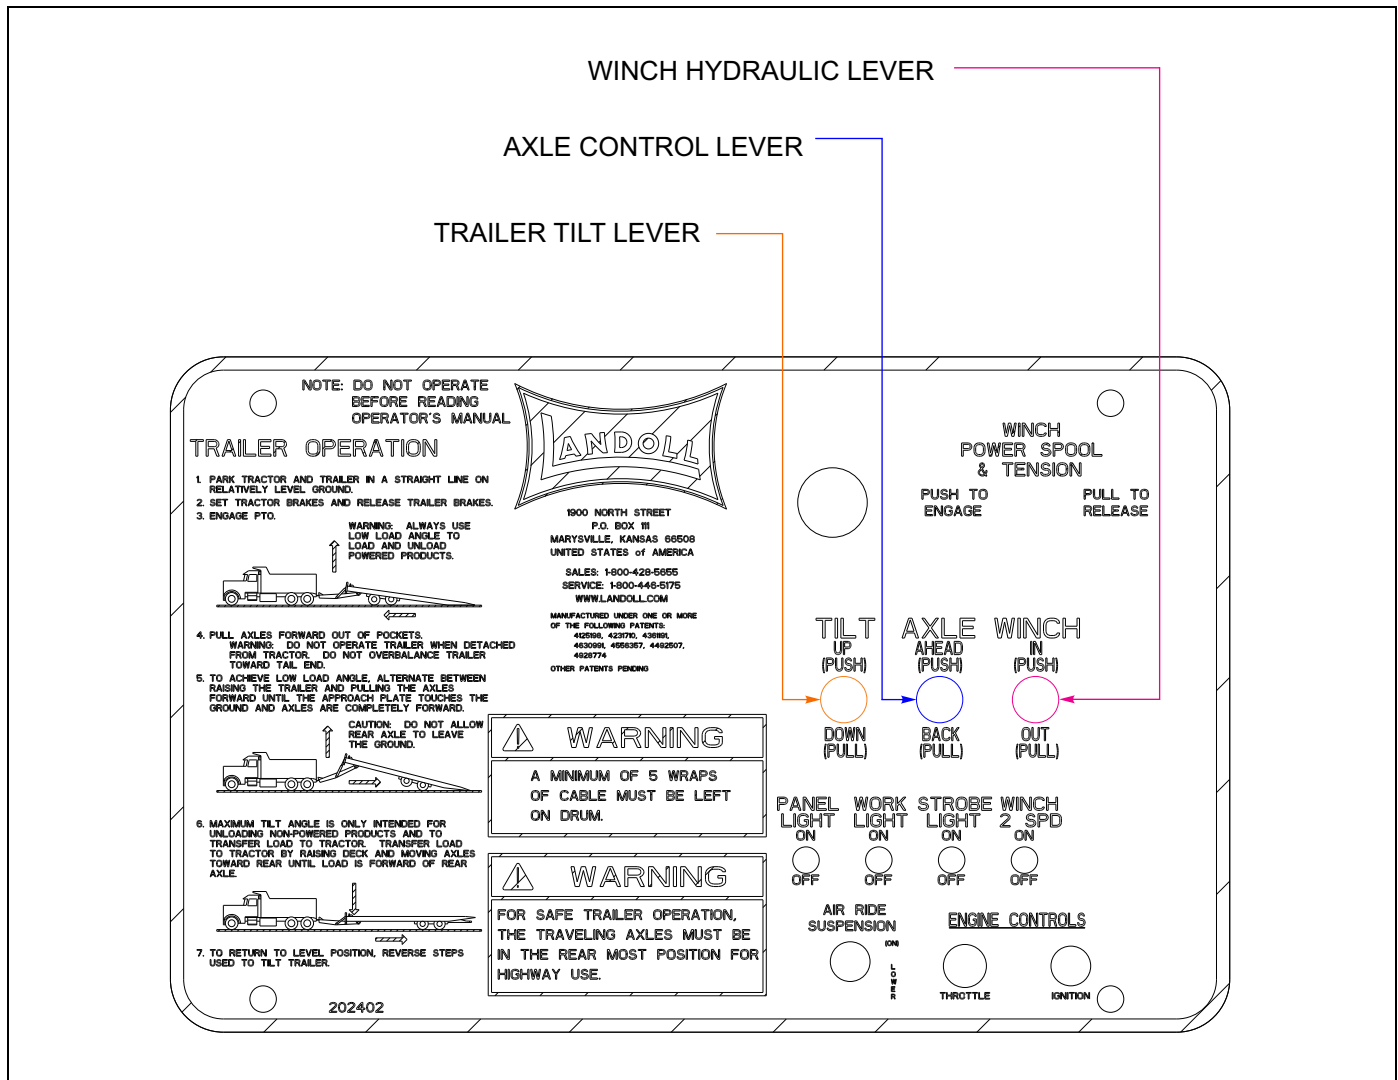

Figure 3-3: Hydraulic Controls
2. The **HYDRAULIC WINCH CONTROL LEVER** is the center lever (See Figure 3-3.) It has three positions:
The **AXLE CONTROL LEVER** is located on the front, lower deck of the driver's side frame member (See **Figure 3-3**) It is the rear lever with three positions:
The **TRAILER TILT LEVER** is located on the front lower deck of the driver's side frame member (See **Figure 3-3**) It is the front lever with three positions: